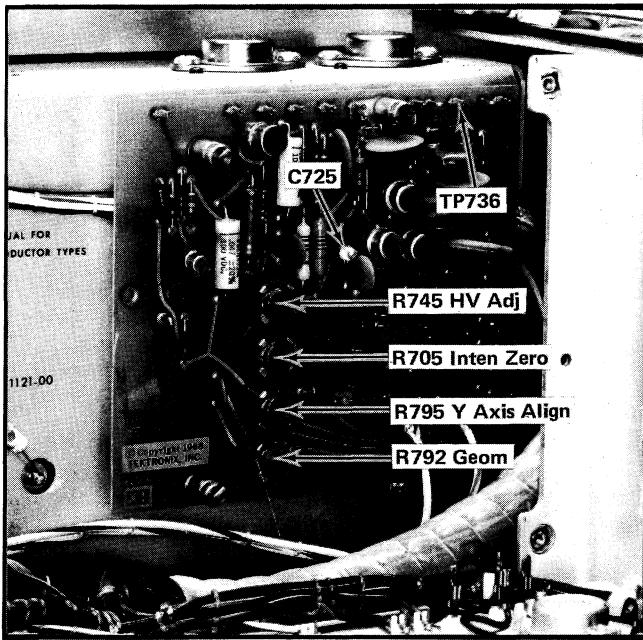

Fig. 5-3. Location of test point TP736 on the High Voltage/Z Axis Amp board, adjustments and C725.
- Connect the DC voltmeter from TP736 of the Z Axis Amp circuit board (see Fig. 5-3) to chassis ground.
h. ADJUST—Z Axis DC Level Adj. (R705; see Fig. 5-3) set to +5 volts.
b. Connect the DC voltmeter from TP736 of the Z Axis amplifier circuit board (see Fig. 5-3) to chassis ground.
e. ADJUST—HV Adj. (R745) on the High Voltage/Z Axis Amp board (see Fig. 5-3) for a meter reading of —2960 volts.
f. ADJUST—Y Axis Align (R795) on the Z Axis Amp circuit board (see Fig. 5-3) so the displayed trace is precisely parallel with the center vertical graticule line.
f. ADJUST—Geom adjustment R792 (see Fig. 5-3). See Fig. 5-5A for minimum curvature of the markers displayed vertically and horizontally.
- e. Connect the DC voltmeter to the Type 7504 Z Axis Amplifier output (TP736). See Fig. 5-3.